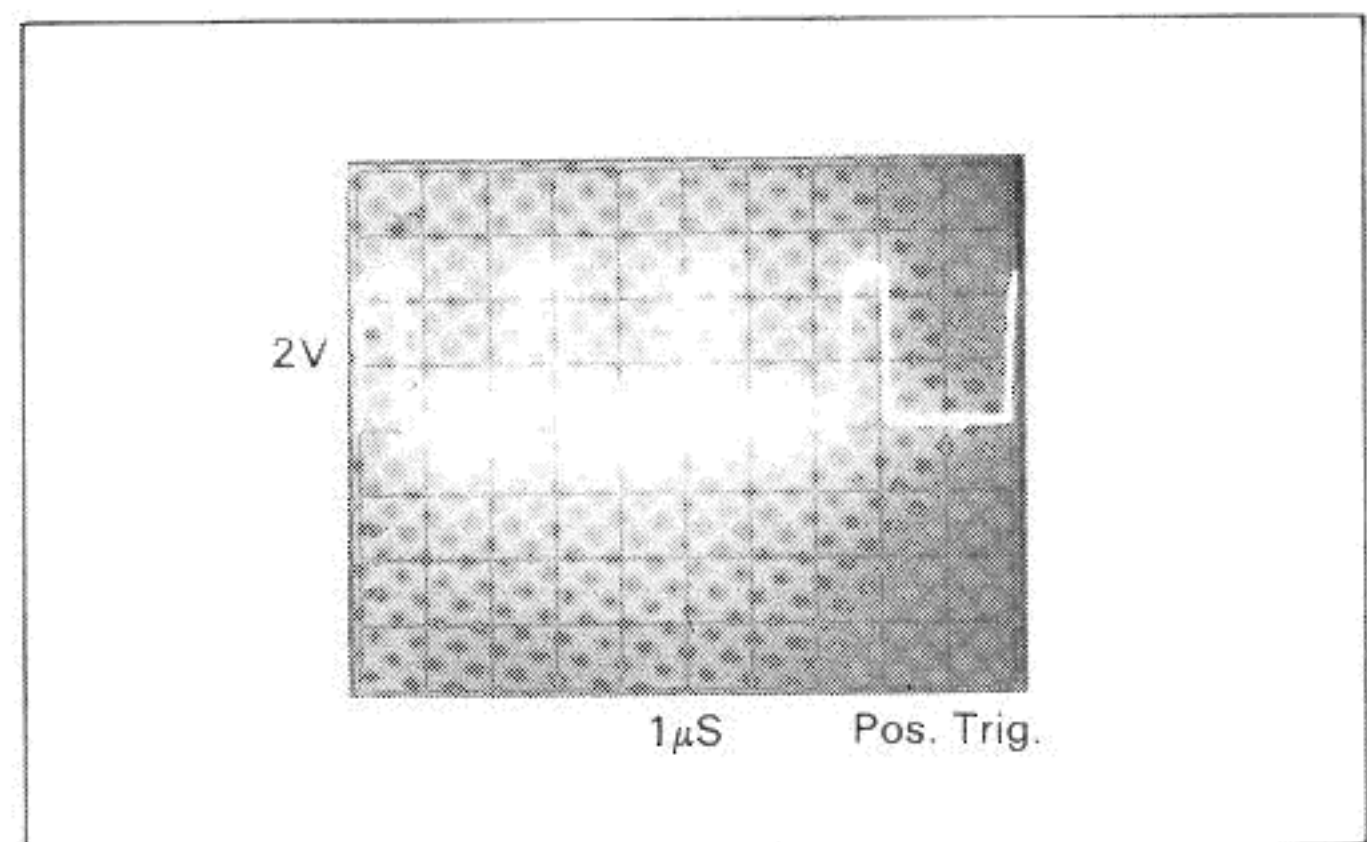

Figure 7-D-1. ALE at JM505
c. Make sure ALE at JM501 is good as shown in Figure 7-D-1. If the signal is missing or incorrect, make sure the microprocessor's clock, U501(pins 2 and 3) is 6MHz. If the clock signal is missing or wrong, try replacing the crystal Y501. If the signal is still wrong, replace U501.